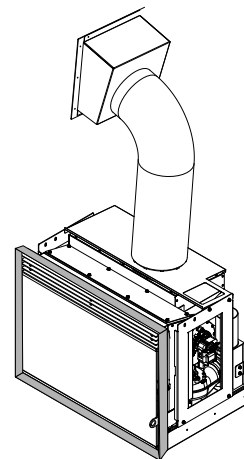

Fig. 40
- Finishing frames for plasterboard (**Fig. 40**).